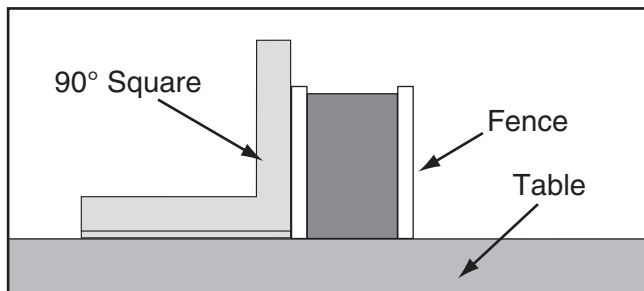

Figure 117. Checking if fence is square to table.
2. Place a square on the table against the face of the fence (**Figure 117**) to check if the fence is square to the table.